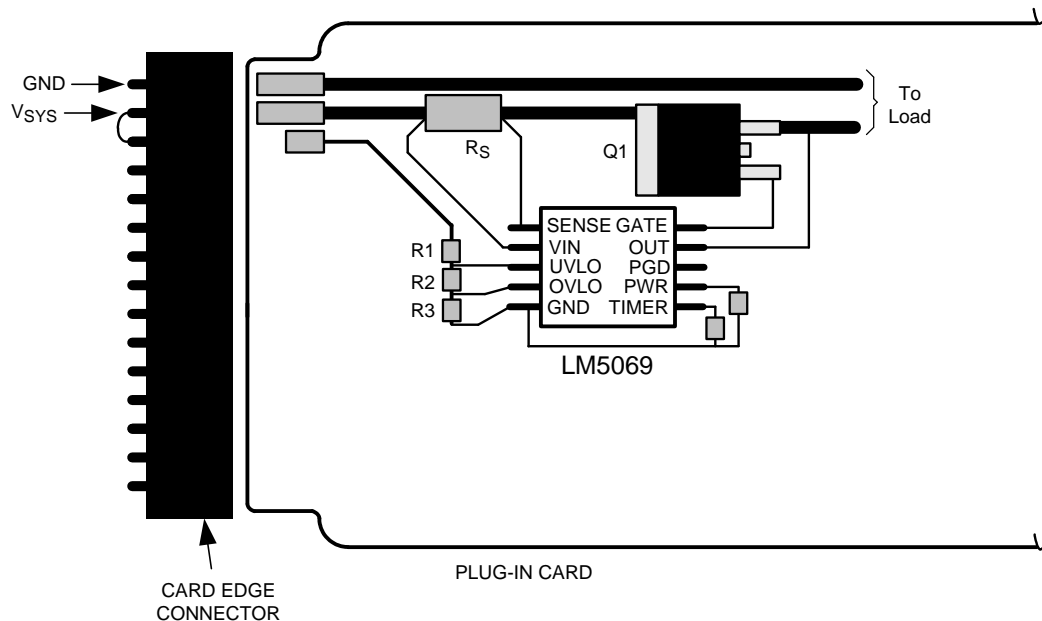

Figure 19. Recommended Board Connector Design
- The board's edge connector can be designed to shut off the LM5069 as the board is removed, before the supply voltage is disconnected from the LM5069. In Figure 19 the voltage at the UVLO pin goes to ground before  $V_{SYS}$  is removed from the LM5069 due to the shorter edge connector pin. When the board is inserted into the edge connector, the system voltage is applied to the LM5069's VIN pin before the UVLO voltage is taken high.